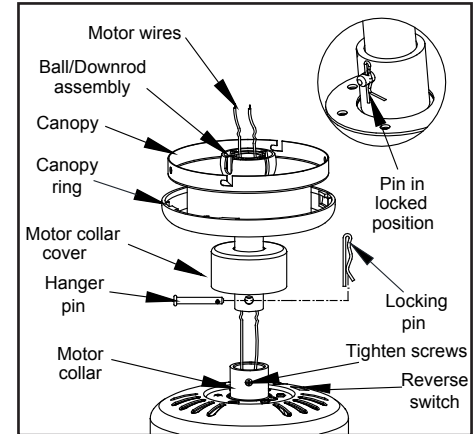

Figure 7
5. Route the wires exiting the top of the fan motor through the decorative motor collar cover then the canopy ring. Make sure the slot openings are on top. Route the wires through the canopy and then through the ball/downrod assembly. (Figure 7)
7. Align the holes at the bottom of the downrod with the holes in the collar on top of the motor housing. (Figure 7) Carefully insert the hanger pin through the holes in the collar and downrod. Be careful not to jam the hanger pin against the wiring inside the downrod. Insert the locking pin through the hole near the end of the bolt until it snaps into its locked position, as noted in the circle inset of Figure 7.
The fan shipped from the factory with the reversing switch positioned to circulate air downward. If airflow is desired in the opposite direction, turn your fan off and wait for the blades to stop turning, then slide the reversing switch (located at the top of the motor housing, refer to figure 7 on page 4) to opposite position, and turn fan on again. The fan blades will turn in the opposite direction and reverse airflow.